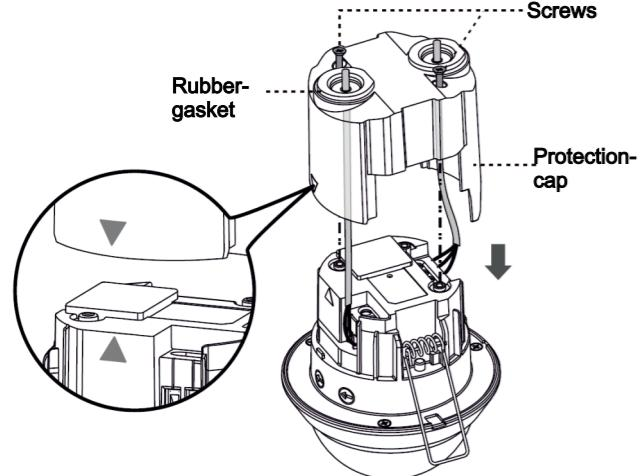

FIG. 8
3.4.2 Use screwdriver to break the rubber gasket, then feed cables through it (See FIG.8).